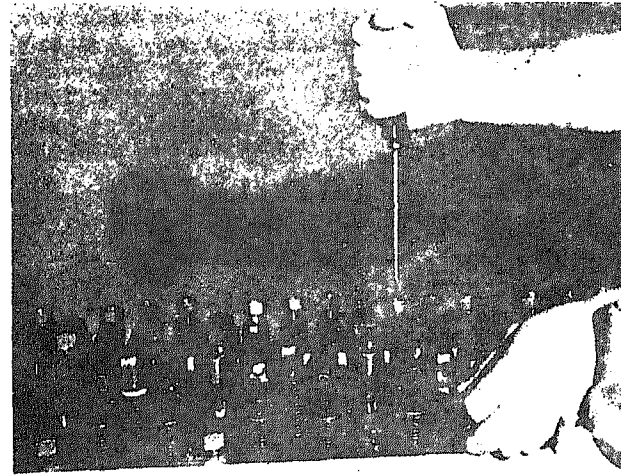

Fig. 14-1-85. Setting valve clearance
1. Loosen locknut and adjusting screw. Insert a feeler gauge between rocker lever and top of valve stem or crosshead and turn screw down until lever just touches feeler gauge, Fig. 14-1-85 and Table 14-1-5.